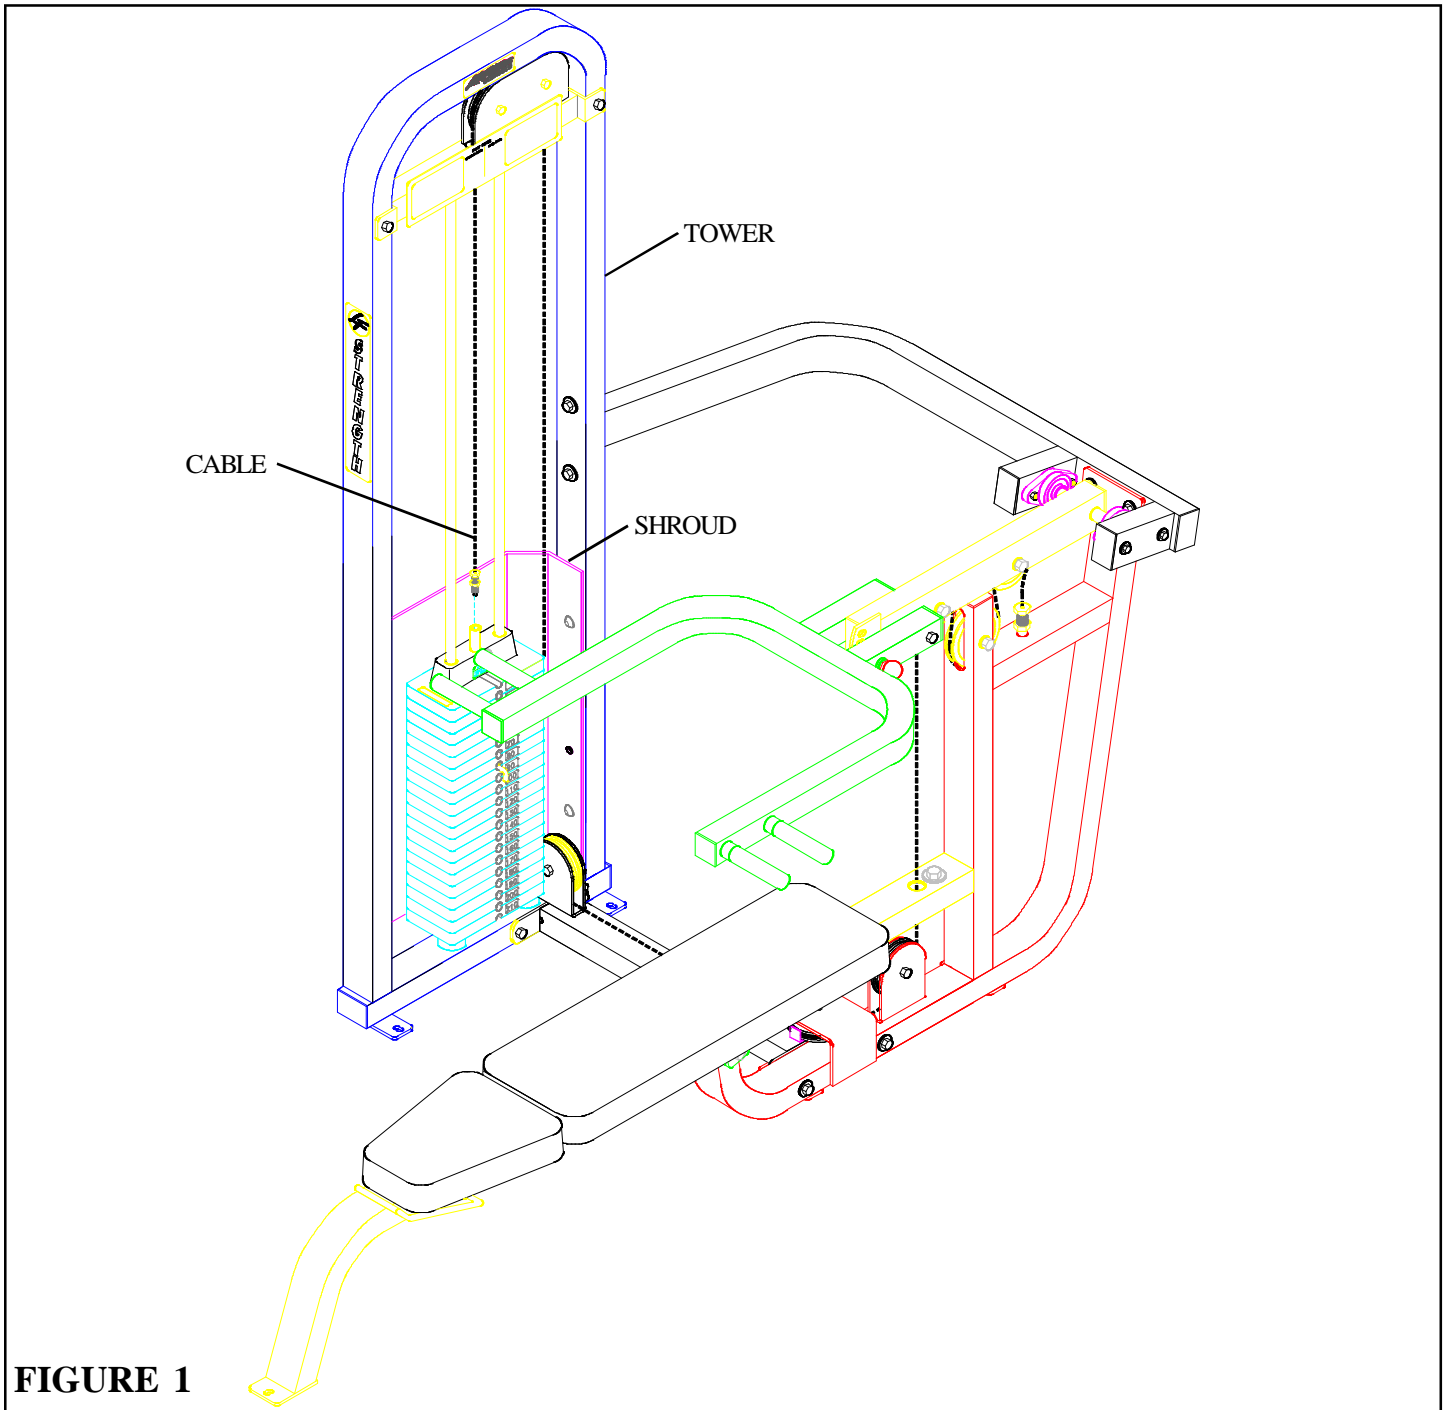

FIGURE 1
- Completely remove CABLE (67846) from the TOWER BRACE, LOWER CROSS SUPPORT, and BENCH FRAME. See FIGURE 1. (NOTE: It may be necessary to loosen and remove some pulleys before removing the cable.)